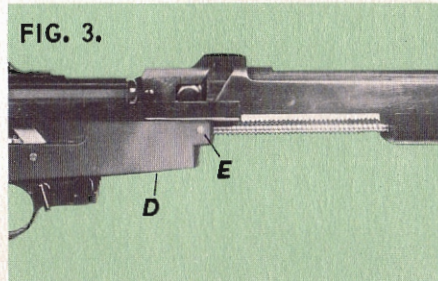

FIG. 3.
Fig. 3. Lay gun on flat surface supporting back side of trigger guard (D) to prevent damage. Drive Trigger Guard Housing Pin (E) out with a drift punch. When pin is removed, trigger guard may be tapped lightly towards the front sight. This will remove it from the Dove Tail so it can be withdrawn from the receiver.